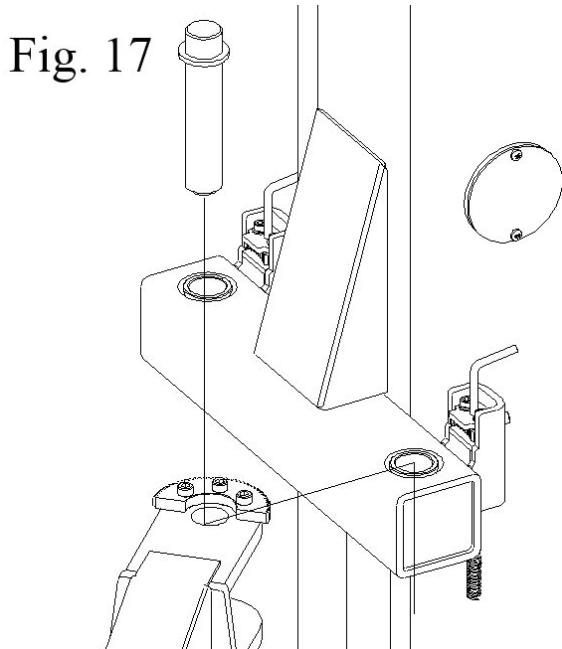

Fig. 17
- Install the lifting arms on the carriages using the included pins as shown in the figure 17.